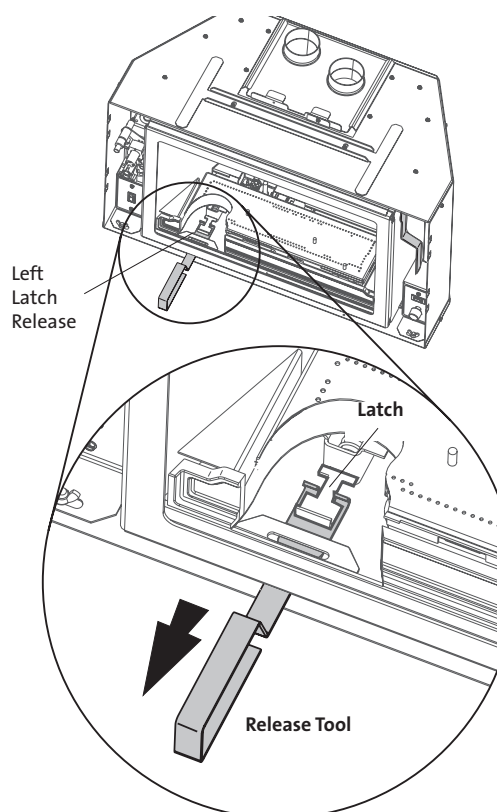

Figure 1. Pull each Spring Latch out and down to disengage it from the Glass Frame.
- See the cut-away view in fig. 1 below to locate the right and left spring latches on the underside of the firebox floor. Release each latch by engaging the tangs of the tool with the latch throat, pulling it forward and down.